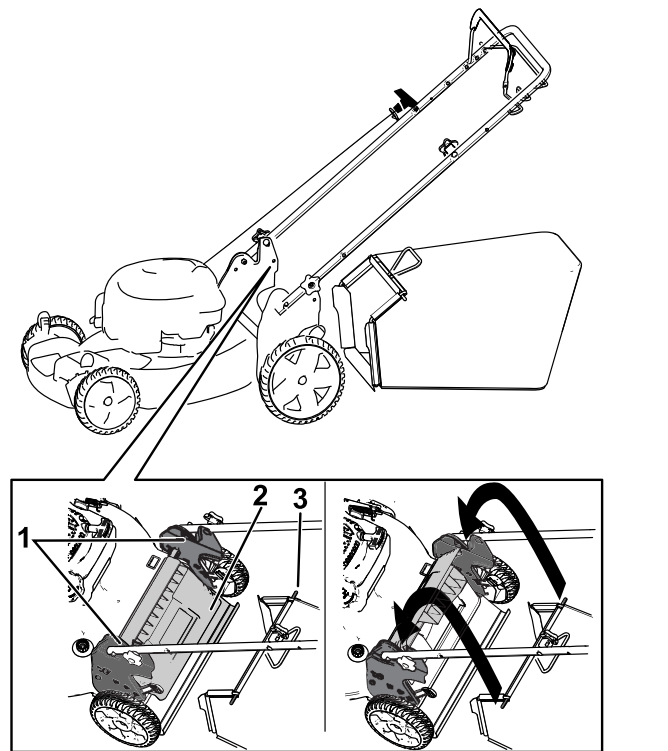

Figure 20
1. Raise and hold up the rear door (Figure 20).
2. Install the grass bag, ensuring that the pins on the bag rest in the notches on the handle (Figure 20).